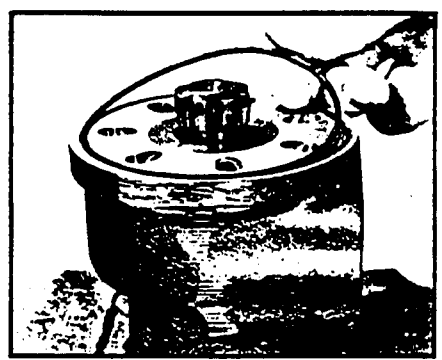

Figure 47
15. Apply a small amount of clean grease to a new seal ring (5) and insert the seal ring into housing (15) seal ring groove. SEE FIGURE 47.